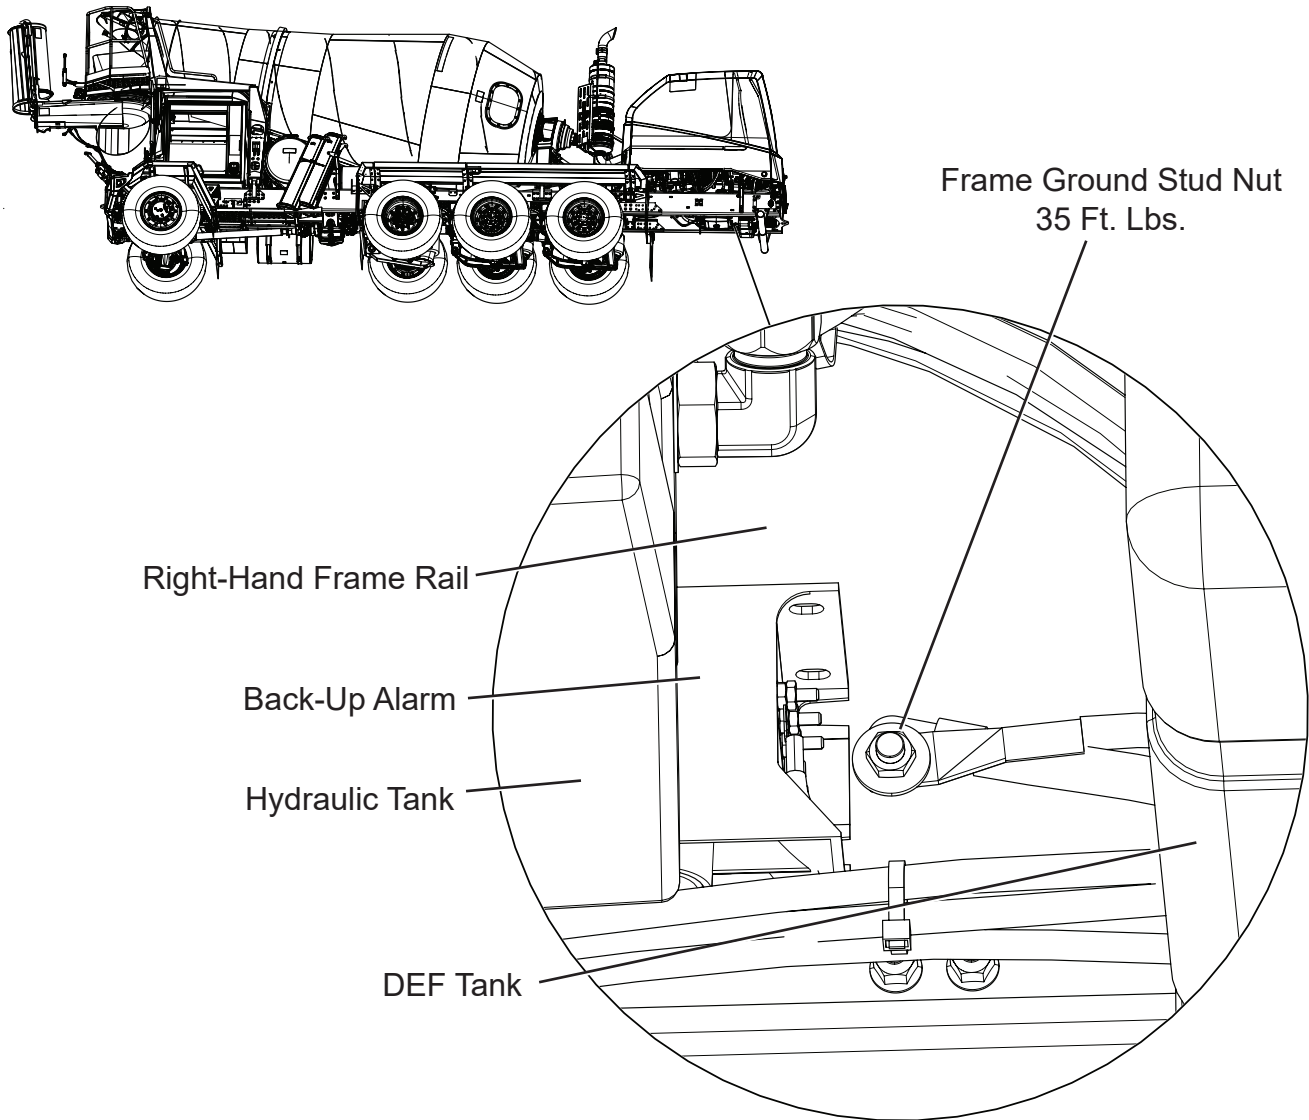

Figure 1
3. Locate the frame ground stud jam nut on the rear right-hand frame rail, see Figure 1.